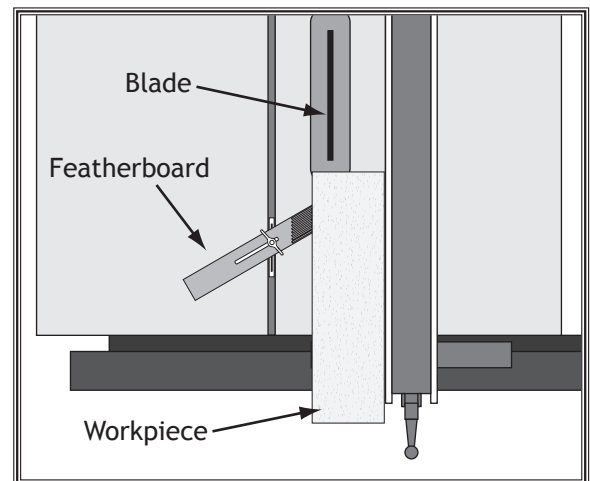

Figure 68. Example illustration of the featherboard mounted in the miter slot.
4. Slide the featherboard miter bar into the miter slot, making sure the fingers slant toward the blade, as illustrated in **Figure 68**.